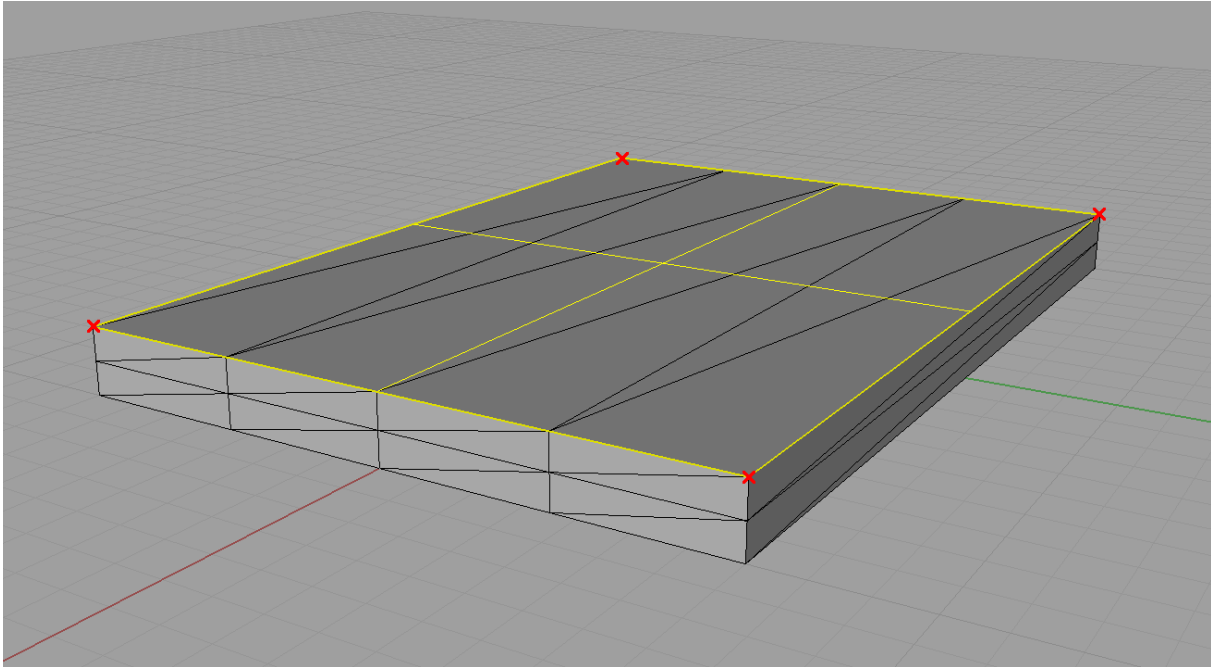

Figure 27: The creation of a continuous surface patch (highlighted yellow) created by snapping to 4 corners (red x) of the mesh.
- ☞ This will create a surface representation of the top side of the box as shown in Figure 27.